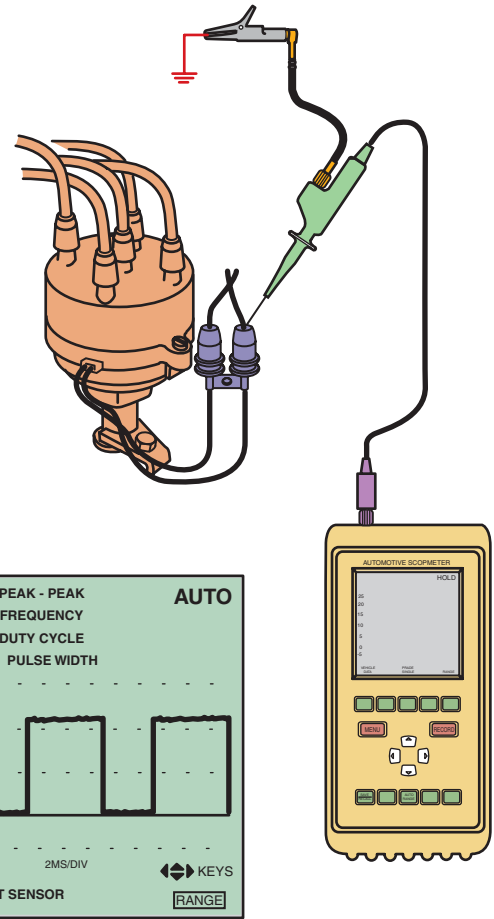

FIGURE 33–26 The connection required to test a Hall-effect sensor. A typical waveform from a Hall-effect sensor.
FIGURE 33–25 Measuring the resistance of an HEI pickup coil using a digital multimeter set to the ohms position. The reading on the face of the meter is 0.796 kΩ or 796 ohms in the middle of the 500 to 1,500 ohm specifications.
- Waveform, using an oscilloscope ● **SEE FIGURE 33–26.**
TESTING OPTICAL SENSORS Optical sensors will not operate if they are dirty or covered in oil. Perform a thorough visual inspection and look for an oil leak that could cause dirty oil to get on the LED or phototransistor. Also be sure that the light shield is securely fastened and that the seal is lightproof. An optical sensor also can be checked using an oscilloscope. ● **SEE FIGURE 33–27.**